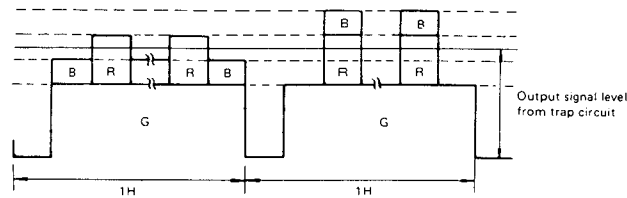

Fig. 1-10 Detection of Y signal
This signal is sent to the preamplifier, where it is amplified. The amplified signal (H) (see Fig. 1-11) from preamplifier is sent to the 5MHz trap circuit, which passes only the luminance(Y) signal (I) comprising the G signal and the mean value of the modulated R and B signals. The mean value of modulated R and B signals on adjacent scanning lines are equal so that the luminance signal corresponding to two successive lines is also equal (see Fig. 1-10) due to the characteristics of the trap circuit.